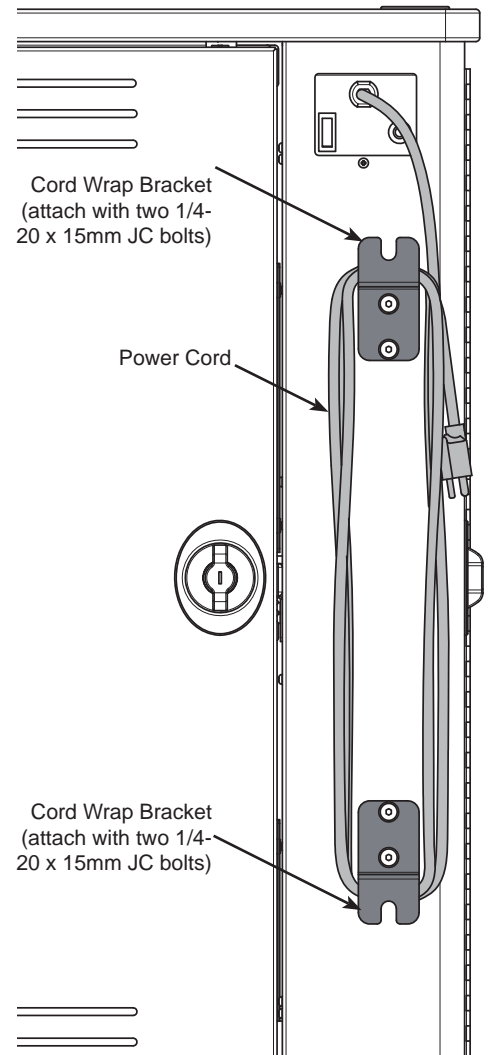

Figure 2
1. Attach the (4) cord wrap brackets to the outside of the cart with 1/4-20 x 15mm JC bolts (2 each) and tighten securely. Be sure the brackets are facing away from each other as shown. **Figure 2.**